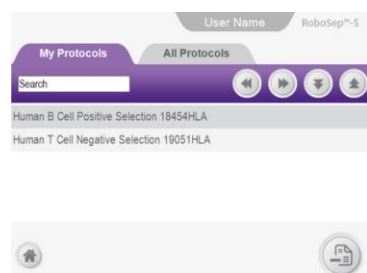

Figure 17. Protocols Screen. In this example, the My Protocol tab is selected.
RoboSep™-S organizes cell separation protocols into two tabs in the Protocols screen (Figure 17):
2. Select  [Protocols] on the Home Screen. The Protocols screen will appear (Figure 17).